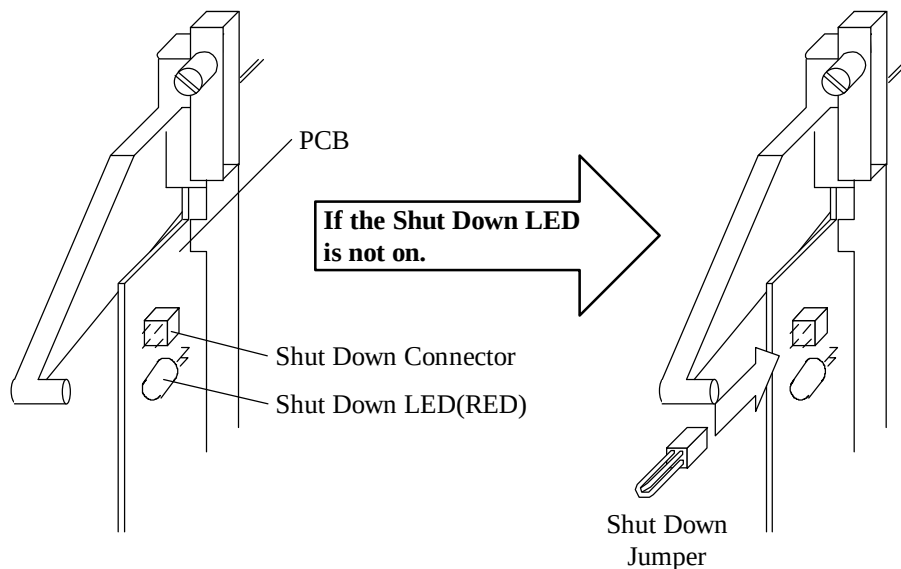

Fig. 4.7.7-1 Shut Down LED
- a. Confirm that Shut Down LED is on.(Fig. 4.7.7-1). If the LED is not on, connect the Shut Down Jumper to the Shut Down Connector.
- a. Remove the Bracket③ and the Strain Relief② referring to Fig. 4.7.7-2.